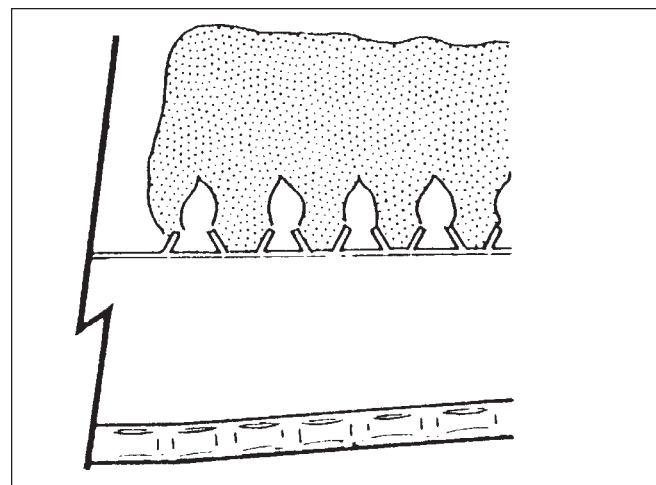

Figure 22. Main Burner Flame.
- b. 1 to 4 inches (25mm to 102mm) above burner surface (see Figure 22).